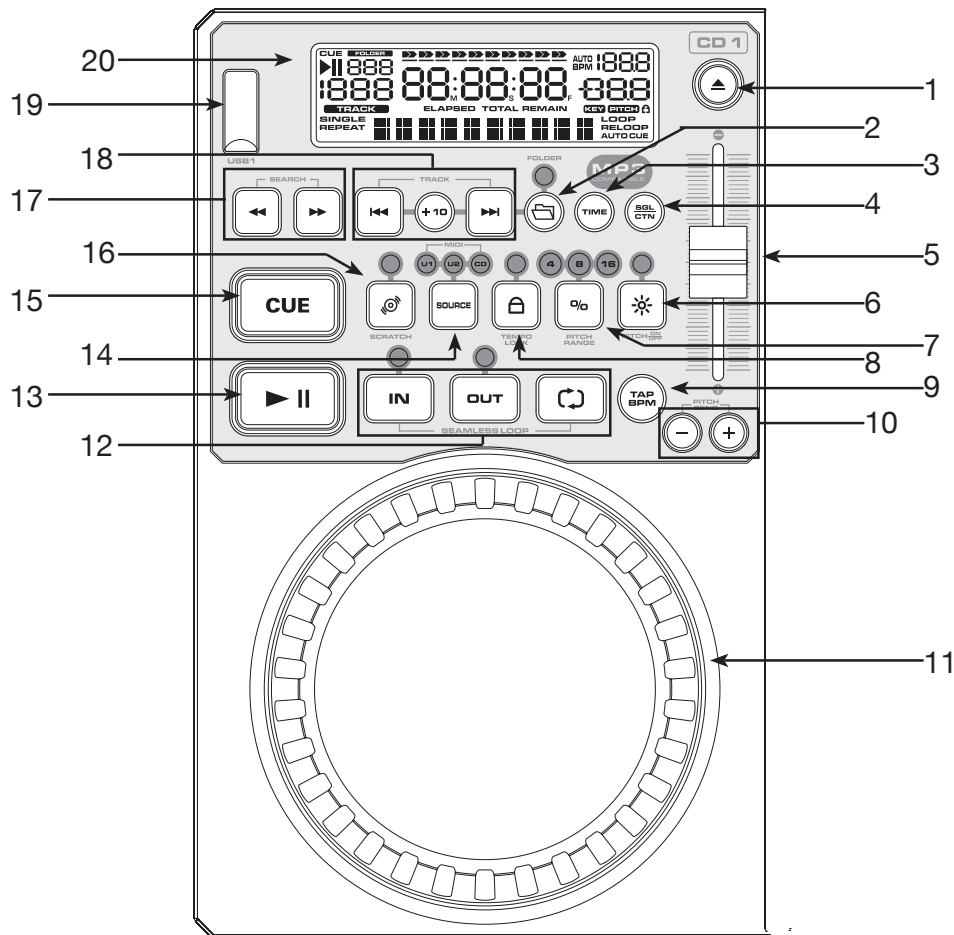

Figure 3
A. PLAYER CONTROLS (FIGURE 3)
3. **TIME BUTTON** - The TIME button will switch the time value described in the *TIME METER* (50) between ELAPSED PLAYING TIME, TRACK REMAINING TIME, and TOTAL REMAINING TIME (this is for CDs only).
5. **PITCH SLIDER** - This slider is used to adjust the playback pitch percentage. The slider is a set adjustment and will remain set until the pitch slider is moved or the pitch function has been turned off. This adjustment can be made with or without a disc in the drive. The pitch adjustment will remain even if a disc has been removed and will reflect on any other disc loaded into the player. That is to say, if you set a +2% pitch on one disc, remove that disc and insert another, that disc too will have a +2% pitch. The amount of pitch being applied will be displayed in the LCD (20).
6. **PITCH ON/OFF BUTTON** - This button is used to switch the pitch function on and off. When the button LED is lit the *PITCH SLIDER* (5) is active. When the button LED is not lit, the *PITCH SLIDER* (5) is not active. The pitch percentage can be changed between 4%, 8%, 16%, 100%. 4% pitch percentage can be changed